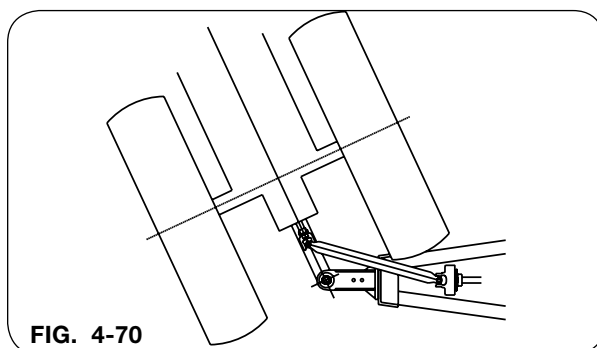

FIG. 4-70
6. Position the tractor to obtain the tightest turning angle, relative to the cart. (FIG. 4-70)